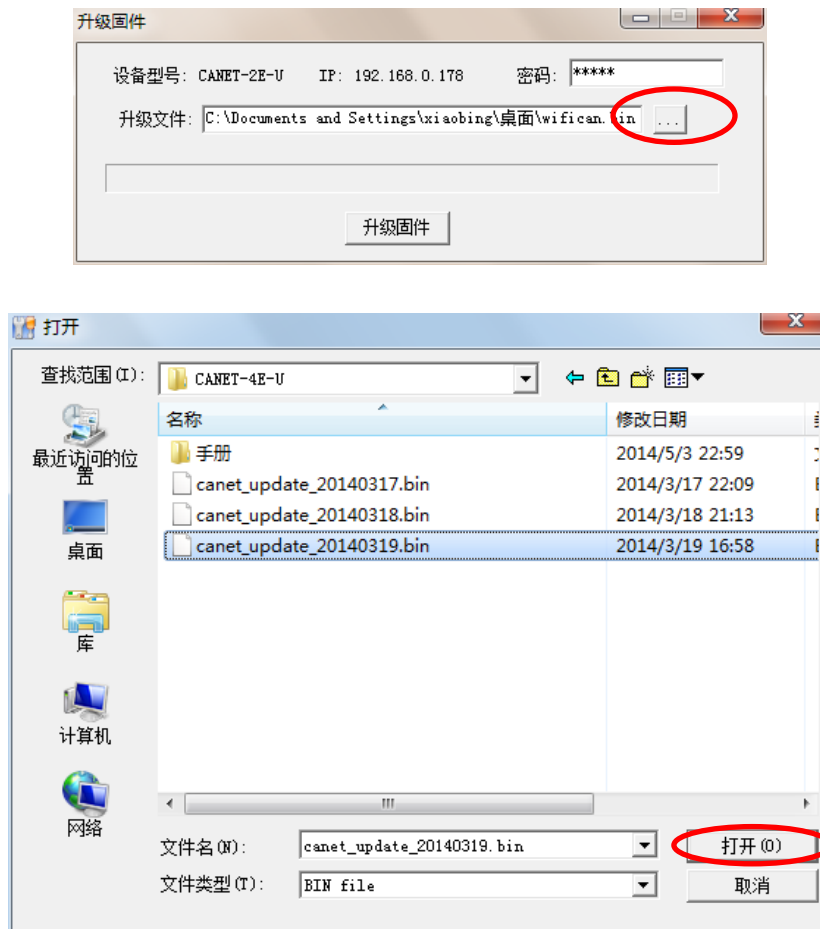

Figure 5.18 Firmware upgrade
2. Click [Upgrade Firmware]. On the firmware upgrade interface shown in Figure 5.18, enter the password (the default password is 88888), select the upgrade file, and click "Open".